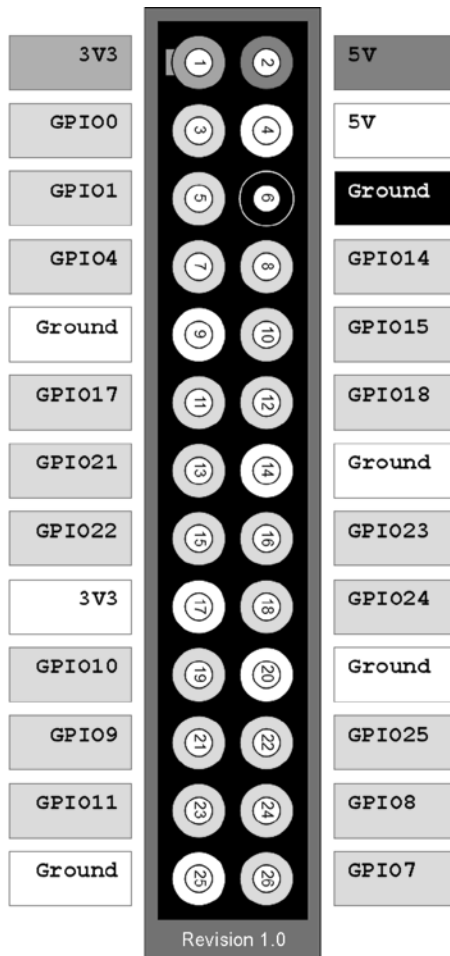

Figure 9-2. Pinout of GPIO pins
which lets you identify the pins as they are labeled on a standard pinout diagram, shown in Figure 9-2.
■ **Note** Keep in mind that with `GPIO.setmode(GPIO.BOARD)`, when you refer to pin 11, you're actually referring to the physical pin #11 (which translates to GPIO17 in the diagram in Figure 9-2), *not* GPIO11, which translates to the physical pin #23).